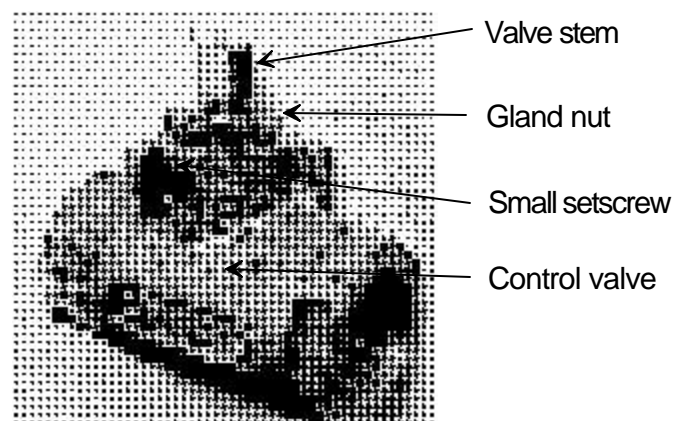

Fig. 2 Valve (detail)
4. Refer to fig. 2 and locate the small setscrew and gland nut on the control valve. The small setscrew (1/16" Allen wrench) keeps the gland nut from loosening during operation of the Treadwall.